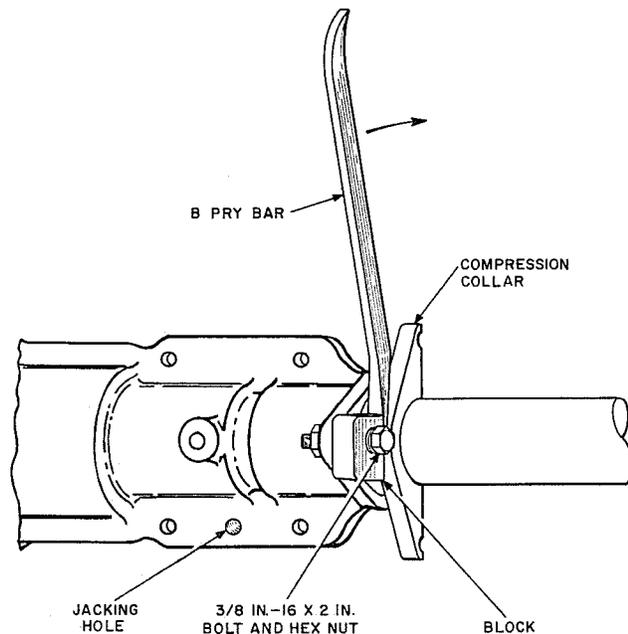

Fig. 24—Splice Case With Bolts in Jacking Holes
5.03 Insert four mounting bolts in the jacking holes provided near the ends of each case for that purpose. Tighten alternately about two turns on each bolt until one or both cases are free from the cable (Fig. 24). **Place a temporary bond across the splice** between the inner clamps.